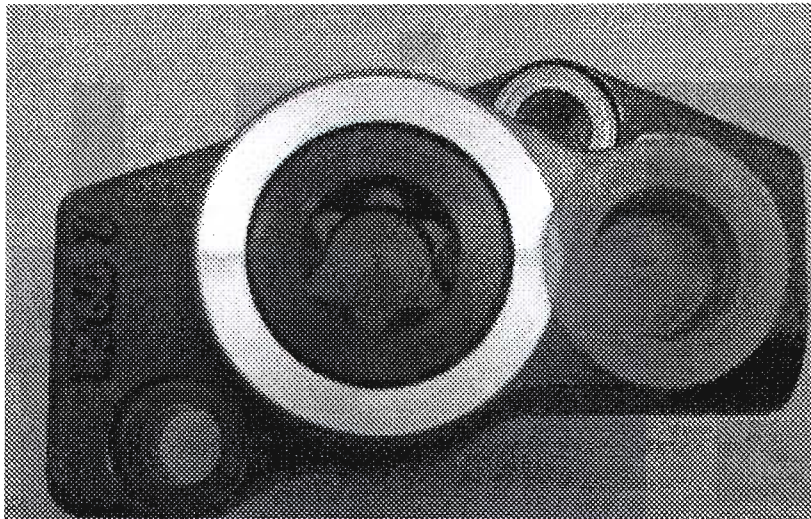

Figure 10 – Clear Plastic Cap Installation
11. Install the clear plastic caps included with the repair kit into the pumping element openings to keep foreign debris from entering the fuel system. See Figure 10.